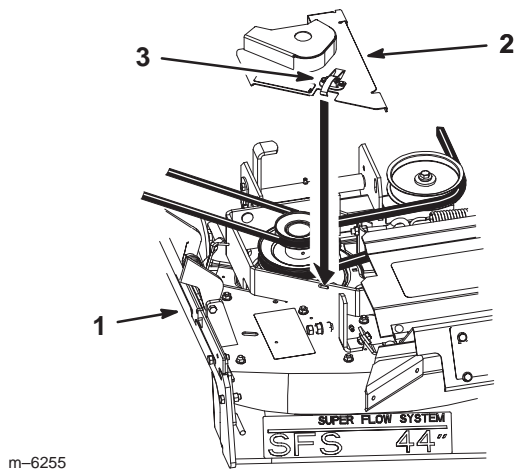

Figure 19
13. Install the belt cover over the pulley assembly and secure the 3 cover latches into the blower (Fig. 19).
14. For 44 inch (112 cm) mowers, install the new belt cover over the pulley assembly and secure the latch (Fig. 19).